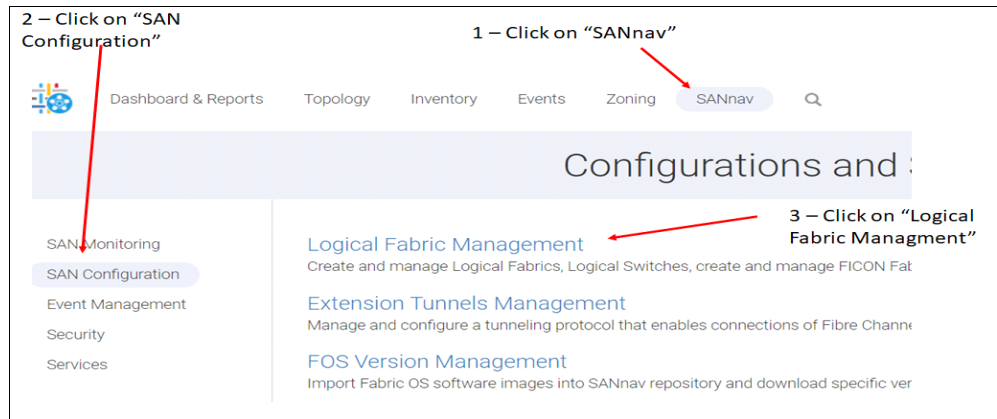

Figure 6-11 Switch configuration
2. Click **SANnav**. Click **SAN Configuration**. Then, click **Logical Fabric Management** (see Figure 6-11).